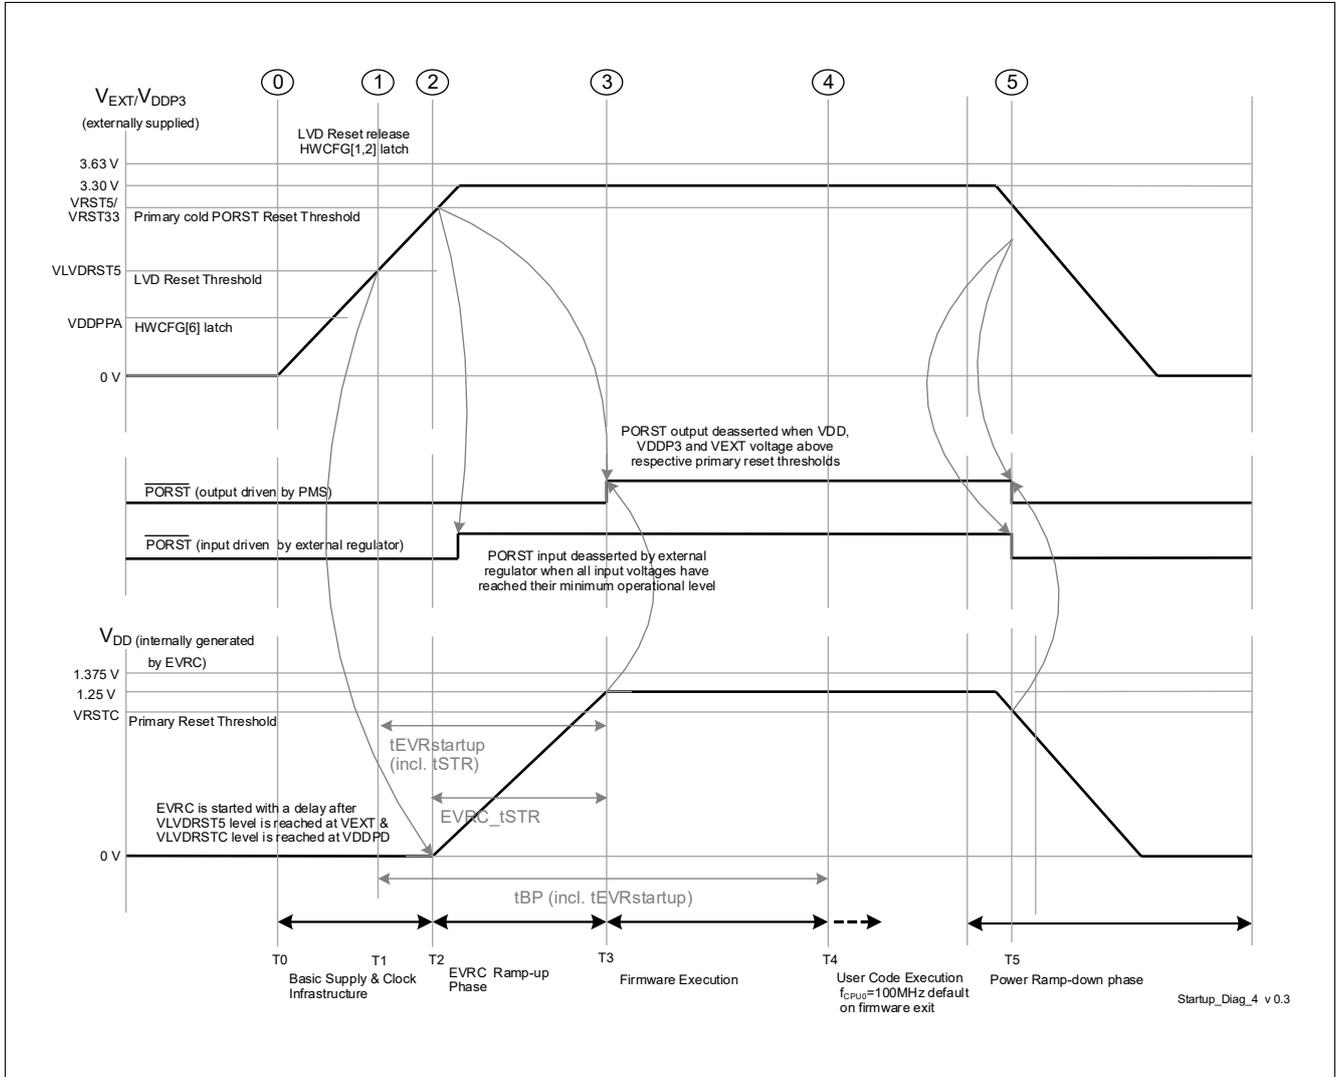

Figure 3-4 Single Supply mode (e) - (VEXT & VDDP3) 3.3 V single supply
- The power sequence as shown in Figure 3-4 is enumerated below